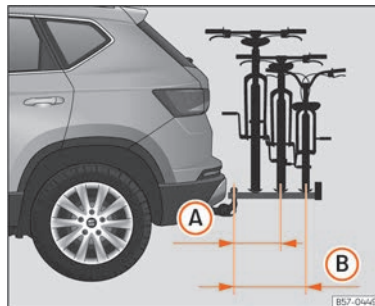

Fig. 182 Schematic representation of the maximum load overhang of a bicycle rack for two or three bicycles.
- (A)** With up to 55 kg load capacity: 500 mm (approx. 19.7 in)
- (B)** With 75 kg load capacity: 700 mm (approx. 27.6 in)
The maximum overhang shall not exceed 500 mm from the centre of the ball head to the to the centre of the rail of the last support » **Fig. 182 (A)** for two-bicycle racks. In the case of three-bicycle racks, the overhang must not exceed 700 mm » **Fig. 182 (B).**